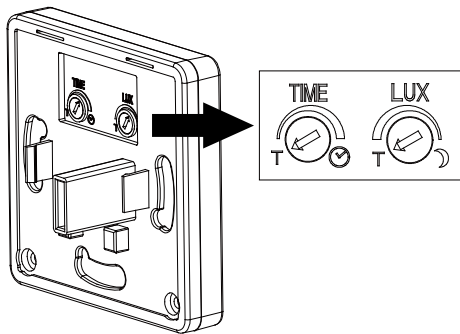

FIGURE 8
(1) TEST THE SENSOR
- Turn the Time and LUX controls counterclockwise to the "T" (TEST) position. (FIGURE 8)